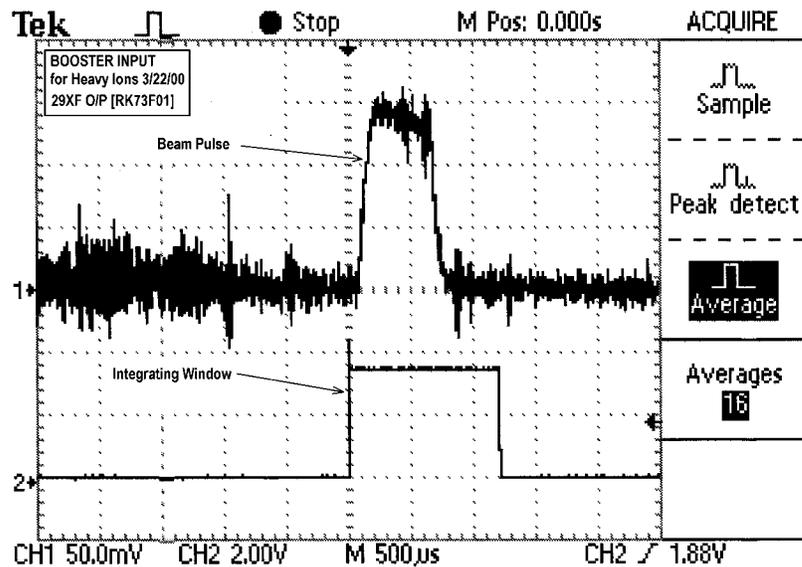

Figure 5 – Integrating Window Relative to Beam Pulse
- b. It is necessary to move the calibration pulse into the integrating window using pet. The path for the signals is Booster/Location/911B/CDC.911.V202A. See Figure 4 for a picture of the pet page. An alternate and more recommended path is Ags/Instrumentation/Current_xfmrs/current_Xfmr. The device setpoints that may need to be changed are the devices listed on the picture beginning with BIX.INTEG_DLY.CLK through BIX.INTEG_STP.ST.C. Since an integration is performed to calculate the number of ions, it is necessary to move the integrating window to enclose the calibration beam pulse as shown in Figure 5. Take note of the original values of any device that will be changed, as it will need to be re-entered at the end of the calibration. Devices ending with ST are the pulse start delay times and devices ending with CLK are the pulsewidth times. The RST device controls when the integrator is reset, the STR device controls the start time of the integrating window and the STP device controls the stop time of the integrating window. The devices BIX.INTG_STR.CLK and BIX.INTG_STP.ST should always have the same setpoint as the stop pulse is triggered from the end of the start pulse. Adjust these devices until the integrating window has enclosed the calibration pulse – a good place to begin is by adjusting the integrate start delay time and continuing from there.
- c. Check to make sure that the beam pulse is located entirely within the integration window as shown in Figure 5 above. If the beam pulse is not within the integrating window, use Figure 4 and the information given in section IV, part 1b to move the integrating window – a good place to begin is moving the integrate start delay time earlier or later depending on where the beam pulse is compared to the integrating window.